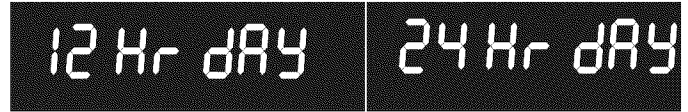

Figure 14: 12 Hr dAY and 24 Hr dAY settings
2. Press **Self Clean** to toggle between 12 Hr day or 24 Hr day display modes. (Figure 14)